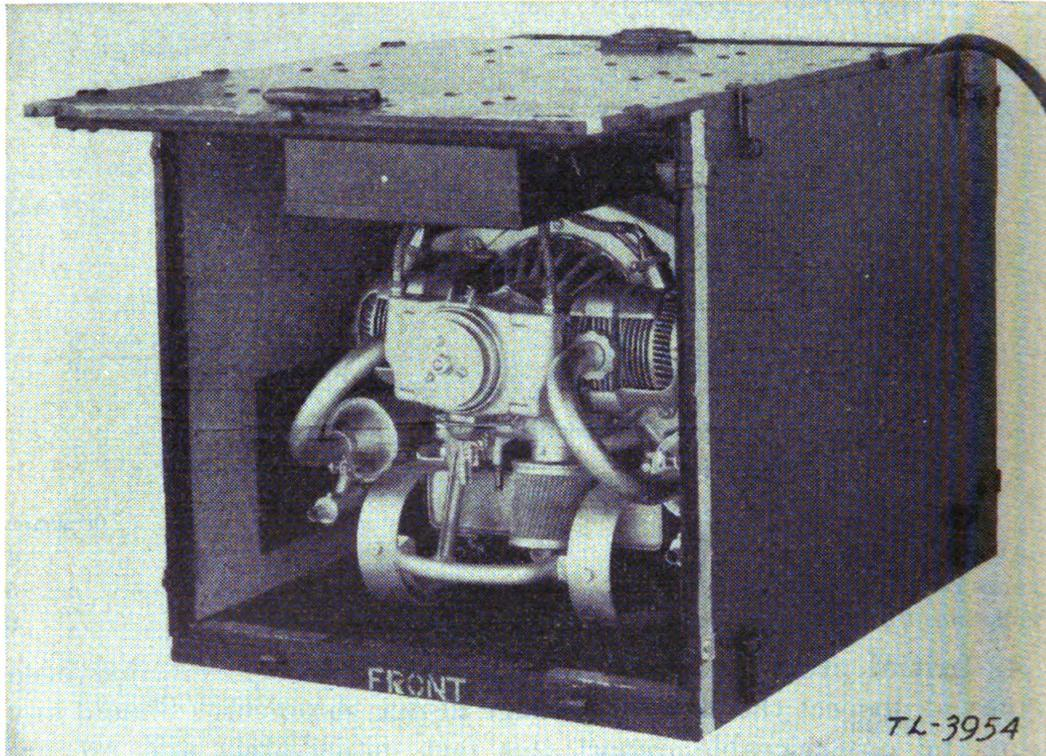
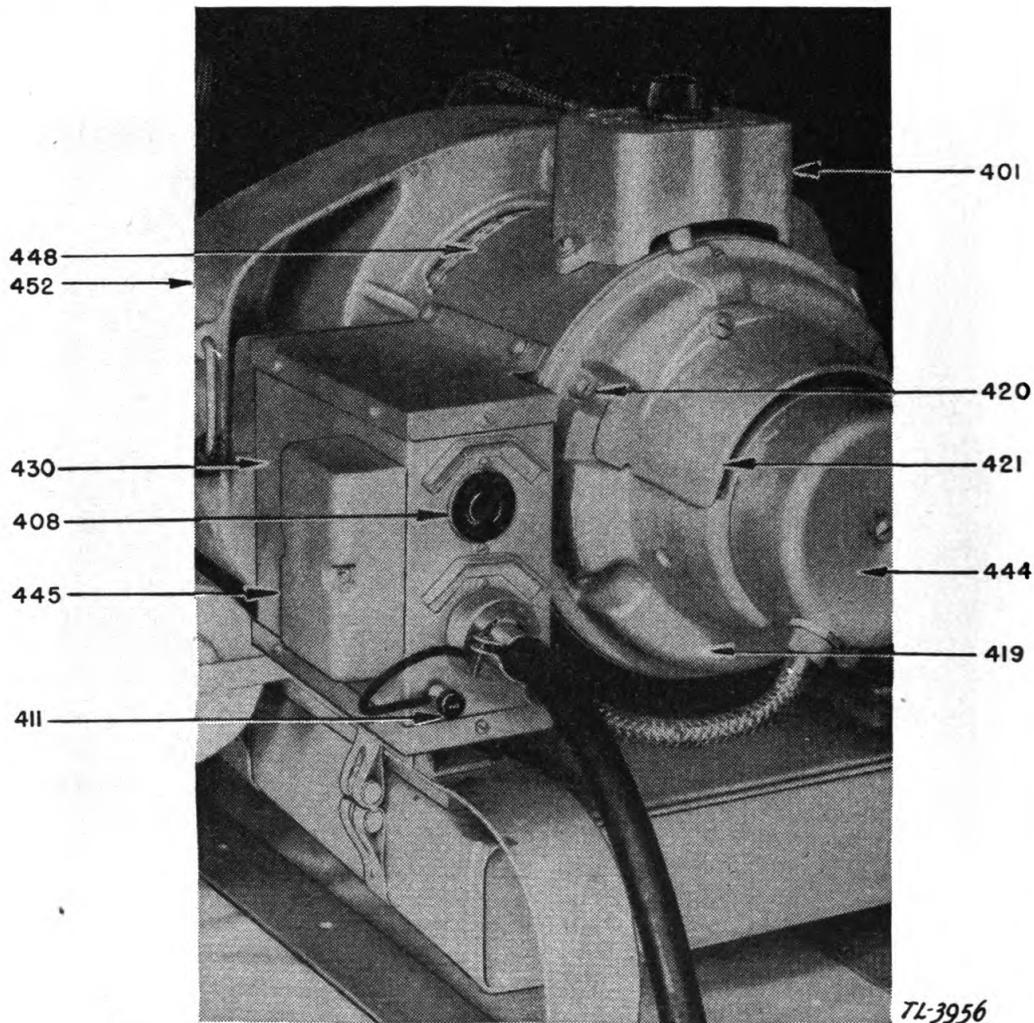

FIGURE 5.—Power unit PE-75-A, ready for operation in case.
FIGURE 7.—Close-up of generator end, showing power cord in place.
b. Operation in case, using cord CD-409 or CD-415.—(1) Set case with front directed away from equipment to be operated. Follow starting and stopping instructions in *e* below.
(2) Remove cord CD-409 or CD-415 if supplied (see par. 1) from inside the case top; place top so that it projects beyond front of case, the overhang to be such as to permit fastening catches to center catch staples on top. (See figs. 5 and 6.)
(3) To place generator in operation, plug the cord into one of the twistlock receptacles (408) on the filter box (430). Attach ground wire on cord to binding post (411) on filter box (fig. 7). Current may be taken from both of the outlets at the same time, providing the total load does not exceed the rated capacity of the generator.
(4) Bring the cord up through rear opening at top. (See fig. 5.)
c. Operation out of case using cord CD-409 or CD-415.—(1) Remove rear end as described in paragraph 4c; then release catches holding sides to base for removal of these sections.
(2) The unit may be operated either on or off the base as required. To remove from base, take off the four wing nuts holding unit to base.
(3) Follow starting and stopping instructions in *e*(1) to (5), inclusive, below. Then proceed as outlined in *b*(3) above and *e*(6) below.
d. Operation using separate wires connected to binding posts.—Follow instructions in *b* or *c* above except for attaching cord. To obtain access to binding posts, remove side of case, if not already done; then remove filter box terminal cover (445). (See fig. 7.) Attach wires to binding posts, which are then exposed, running the wires through the cable clamp (426). (See fig. 19.)
(2) Cut rheostat (401, fig. 7) out fully (turned completely in a counterclockwise direction) before starting engine.
(6) To obtain exact voltage, apply the load to the generator and then turn rheostat (401) clockwise until the desired voltage is obtained. (See fig. 7.)
(7) Once the unit is started, it should require no further attention other than refueling, and possible adjustment of the rheostat if the load is changed.
10. Generator.—*a. Commutator (404) and collector rings (405)* (fig. 10).—(1) To inspect commutator and collector rings, remove brush head cover plate (421, fig. 7). The commutator should require no cleaning for several hundred hours of operation. It need be cleaned only when excessively carbonized, when too much arcing occurs, or if scored.